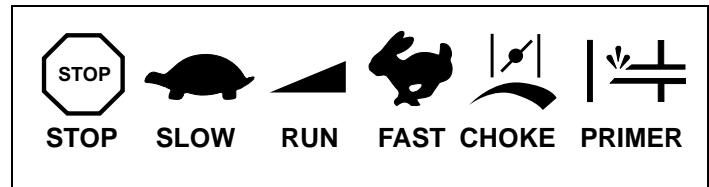

Figure 26. Typical Engine Symbols
3. Move engine speed control to “FAST” position. See Figures 26 and 27.
- c. Finally, move engine speed control to desired speed in "RUN" range. See Figures 26 and 27 on page 13. Afterward, continue reading instructions below.